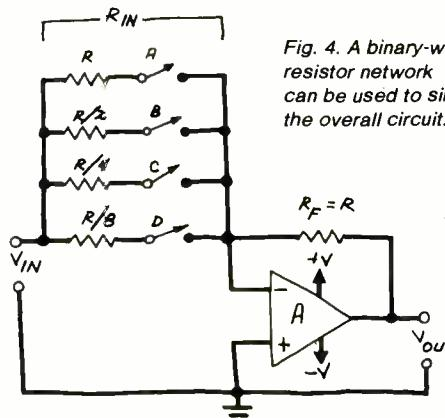
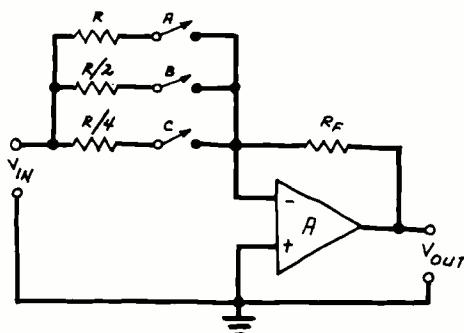

Fig. 4. A binary-weighted resistor network can be used to simplify the overall circuit.
Fig. 5. Three-level binary-weighted input network.
**Simplified Programming.** As more gain settings are required, the circuits just presented become impractical because more and more resistors and switches become necessary. One way to reduce circuit complexity while greatly increasing the number of available gain steps is to replace the custom-selected resistor network with a binary-weighted resistor network. Figure 4 shows a four-level network connected in place of  $R_{IN}$
It's helpful to understand the operation of the binary-weighted resistor network in Fig. 4. Although its input network has four levels, we can understand how it works by referring to the simpler, three-level version shown in Fig. 5.
It should now be obvious to you how the circuit shown in Fig. 4 provides a switch-programmable gain of from 1 to 15. Add another resistor-switch pair to the network and the available gain will range from -1 to -31. The use of eight resistor-switch pairs results in switch-programmable gains from -1 to -255.
**Adding Digital Control.** A straightforward way to provide digital control of the circuits that have been presented is to replace the conventional, manual switches with CMOS analog switches. Figure 7 shows how to use a CD4066 to replace all four mechanical switches in the circuit of Fig. 4. Keep in mind that the "on" resistances of the four analog switches in the CD4066 should be subtracted from the values of the input-network resistors to calculate the actual gains such a circuit would provide.